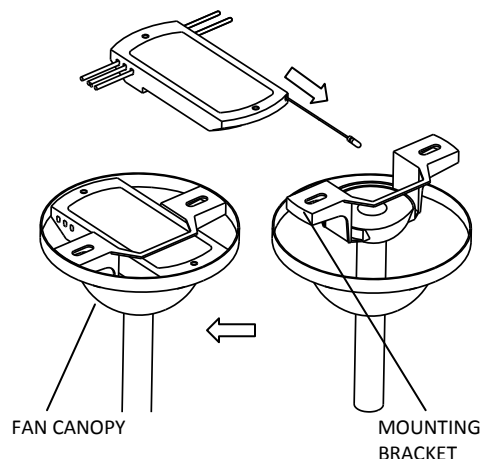

FIG 1
2. Slide the receiver into the mounting bracket per FIG.1 being careful not to pinch the antenna wire.